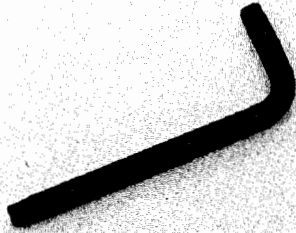

Figure 1-15.
1.4.1 Torx Wrench (Figure 1-15)